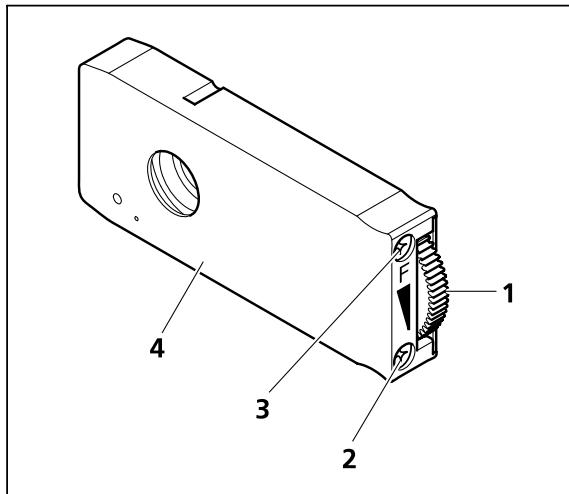

Fig. 4-36 Diaphragm slider 14x40 mm
- You will need one diaphragm slider 14x40 mm each (Fig. 4-36/4, inserted in the upper stand part as field diaphragm (**F**) and aperture diaphragm (**A**)) in order to adjust the reflected light beam path according to KÖHLER.
- The diaphragm is opened by turning the knurled wheel (Fig. 4-36/1) of the slider up and closed by turning it down.
- The diaphragm can be centered to the beam path with both centering screws (Fig. 4-36/2 and **3**) and the hexagon socket wrench SW 3.